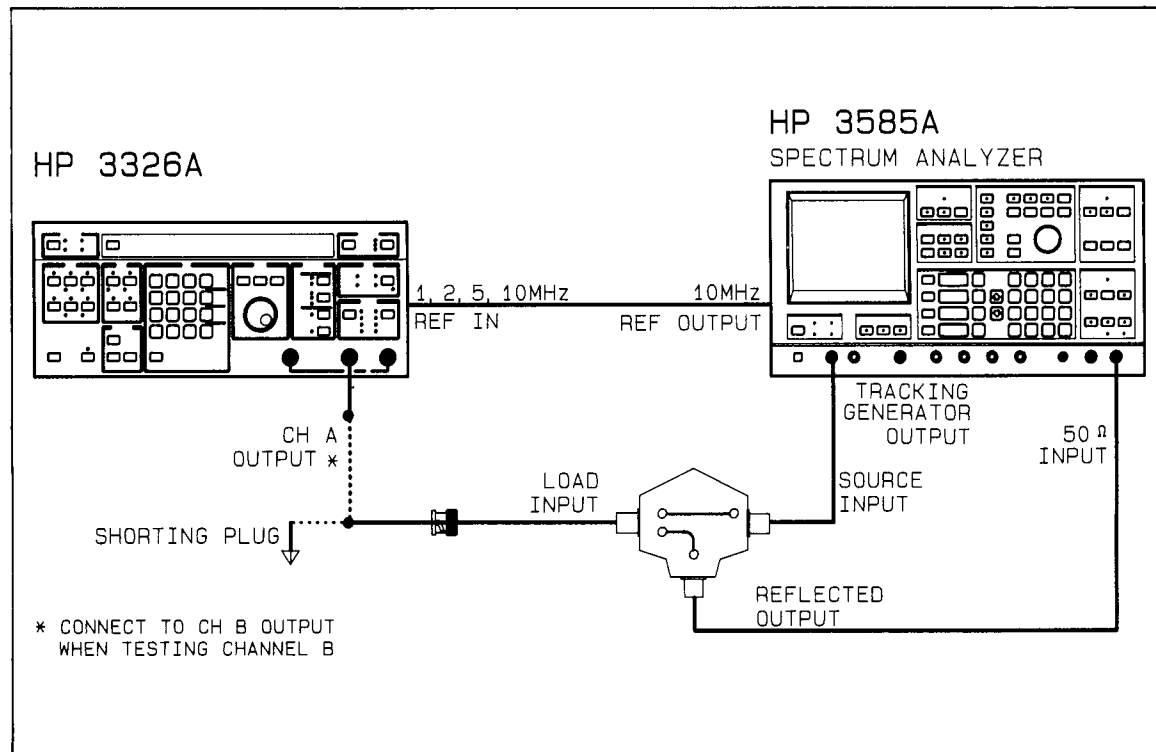

Figure 2-5. Return Loss Test
3. Connect the test equipment as follows (illustrated in Figure 2-5):